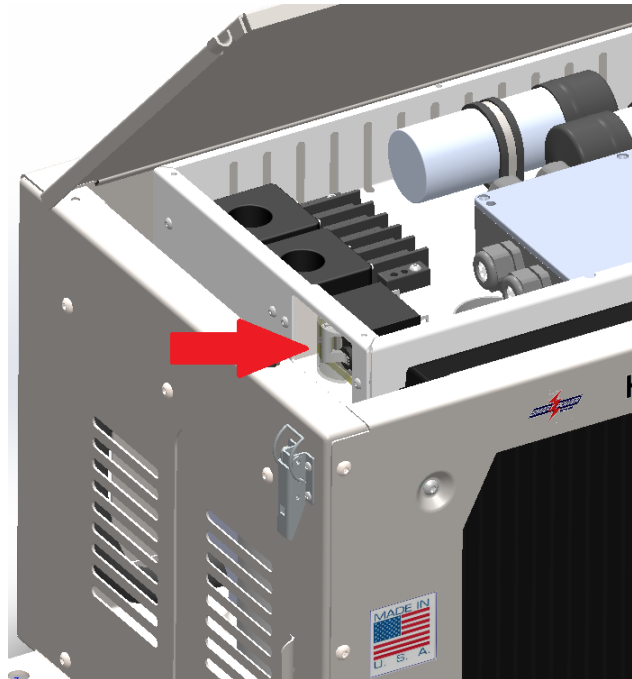

Figure 9 – Main Power Breaker
- a. Turn off the generator's main power breaker. Refer to Figure 9 for the breaker location on the electrical enclosure, below.